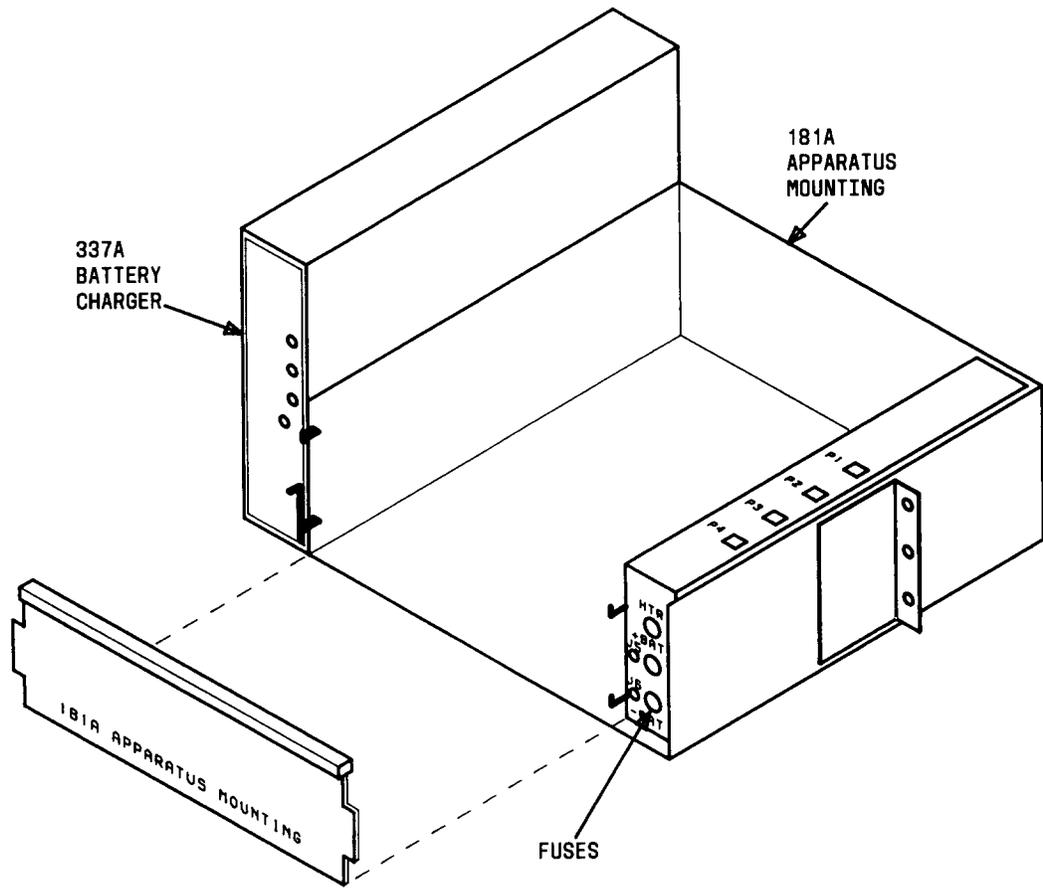

Fig. 2—Battery Shelf
3. Insert the 337A BATTERY CHARGER into the slot located on the left side of the battery shelf (Figure 2) and press the HIGH RATE CHG/ACTIVATE button on the BATTERY CHARGER.